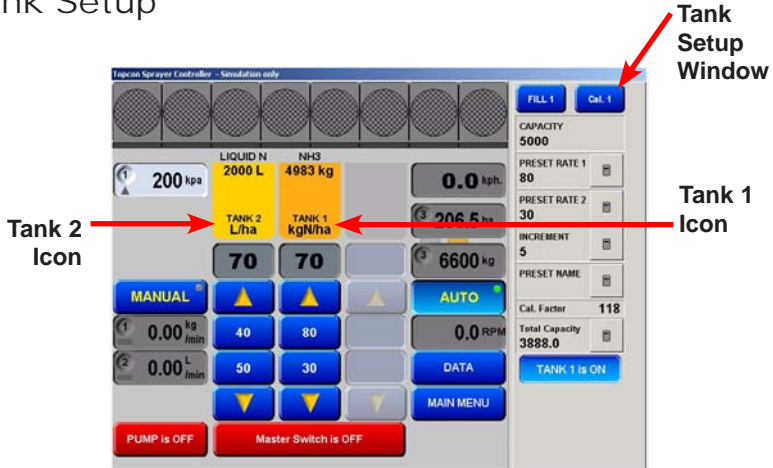

Figure 10-5. Working Screen Showing Tank Setup Window
1. Select the tank icon (Figure 10-5 on page 10-13) for the tank (1,2 or 3) which needs to be refilled
The **Tank Setup** window is displayed (Figure 10-5 on page 10-13).
2. Select **FILL** (Figure 10-5 on page 10-13)
The *Tank Setup* window will be displayed (Figure 10-5 on page 10-13)